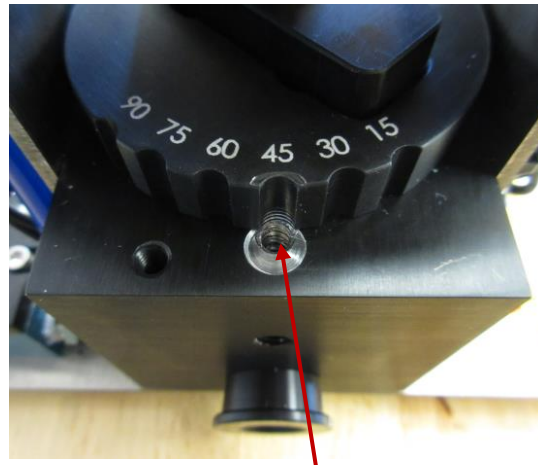

Figure 3.2.2 Remove screw and washer
- Remove screw in the angle selection wheel. *Figure 3.2.2*